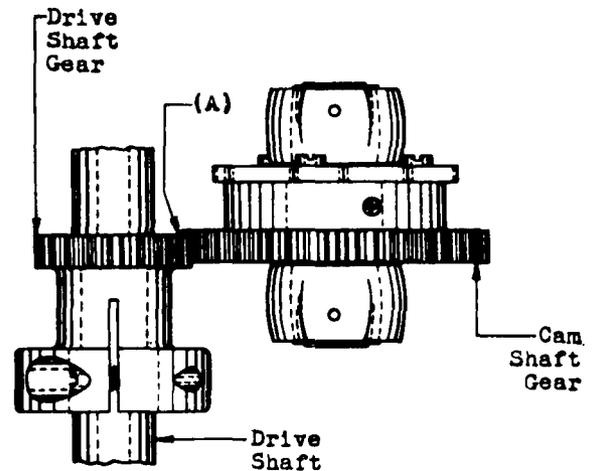

Fig. 5 - Gear Assembly
2.06 Backlash Between Gears - Fig. 5 (A):